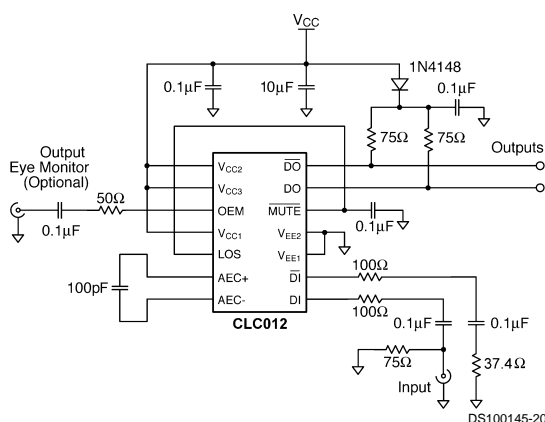

FIGURE 1. CLC012 Equalizer Application Circuit
**Loss of Signal (LOS)** is a CMOS output that indicates the presence of equalized data from the filter. This LOS output can be connected to **MUTE** to suspend changes in the data outputs DO and  $\overline{\text{DO}}$ , if no valid signal exists. This simple configuration prevents random output transitions due to noise. For sparse transition patterns it is recommended that a capacitor be connected to LOS as shown in *Figure 1*.
The OEM is a high-speed, buffered output for monitoring the equalized eye pattern prior to the output comparator. Its output is designed to drive an AC-coupled 50Ω coaxial cable with a series 50Ω backmatch resistor. The cable should be terminated with 50Ω at the oscilloscope. *Figure 1* shows a schematic with a typical connection.
The CLC012 operates from either +5V or -5.2V single supplies. Refer to *Figure 1* when operating the part from +5V. When operating with a -5.2V supply, the  $V_{EE}$  pins should be bypassed to ground. The evaluation board and associated literature provide for operation from either supply.